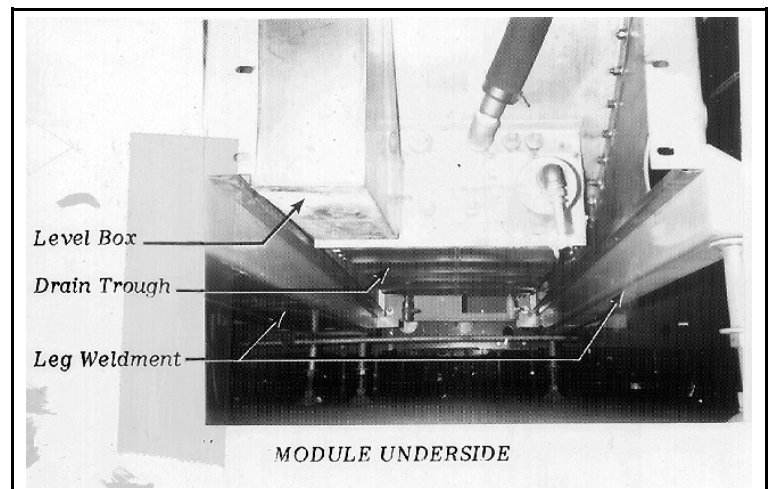

FIGURE 2 (MSIND410AE)
2. Always place dollies, jacks, etc. under the leg weldments, never under the level box or module drain trough, (see FIGURE 2, "Module Underside"). It is always preferable to locate the moving equipment as close to the quarter points as possible.